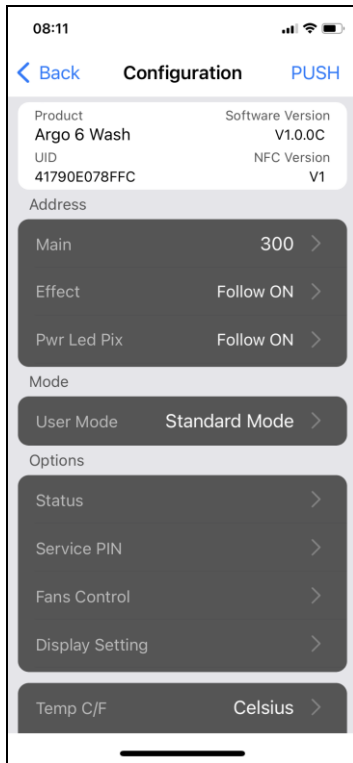
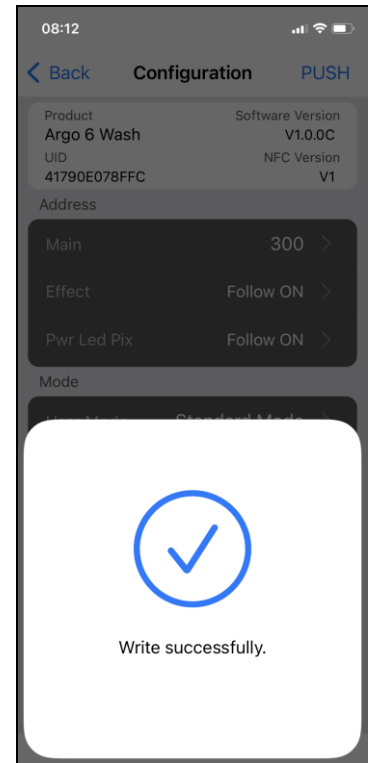

Figure 6
Figure 8
- 3) Tap 'PUSH' on the upper right corner (Figure 6, 7) and place the NFC scan area of your mobile phone close to the NFC tag area of the fixture to write into the NFC tag (Figure 8).